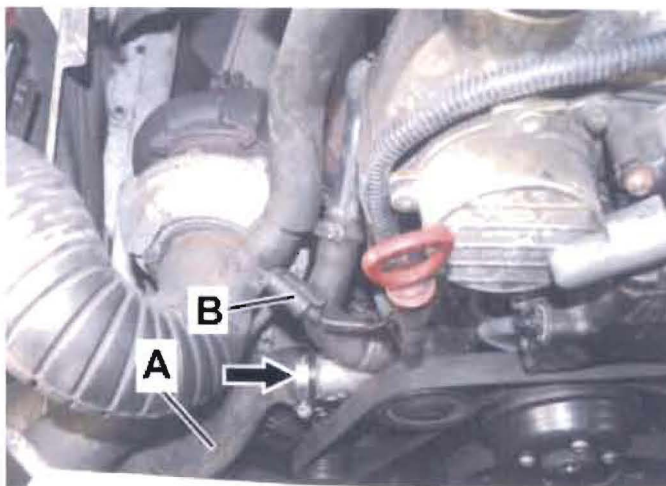

Figure 2
- Remove hose clamp (arrow, Figure 2) from lower radiator hose (A)
- Disconnect hose (A) then drain coolant into clean drain pan (reuse coolant on reassembly).
4. Disconnect harness connector (B, Figure 2) on turbo intake hose.